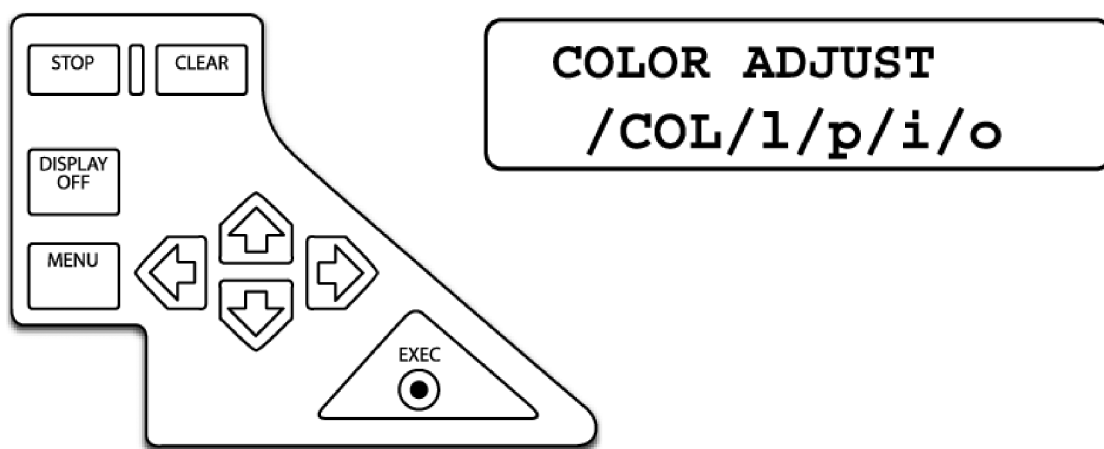

Figure 8-124 Color Video Printer Control Panel and Printer Window Display
The Preset menu is displayed (see Figure 8-124 below).
- 1.) Select COL using the  or  button (see Figure 8-124, above). The COLOR ADJUST top menu is displayed on the Printer Window display (Figure 8-125 below).